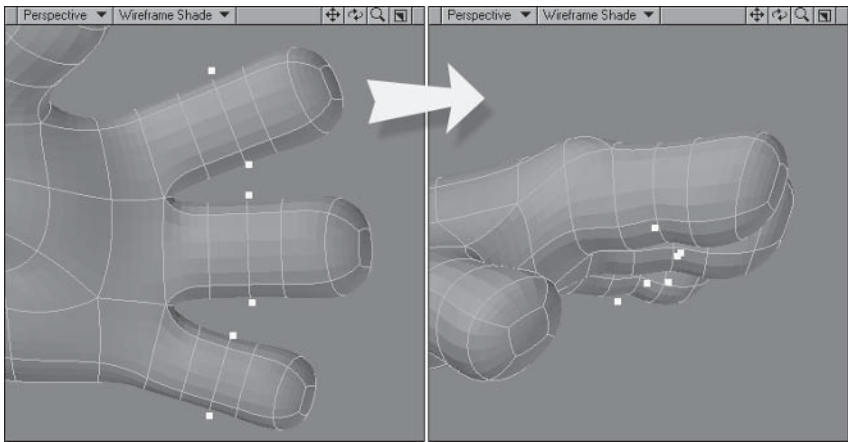

Figure 5.4-45. Creating finger creases.
17. Select the middle points at the bottom of the fingers, shown in Figure 5.4-45, and **Move** them up a touch, creating the creases in the fingers.